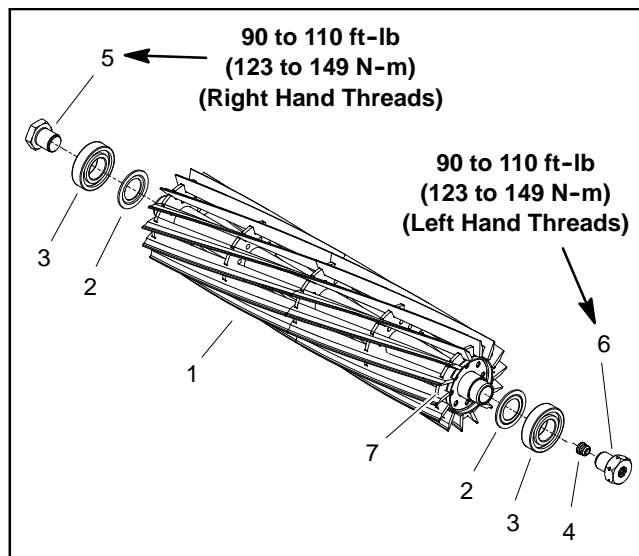

Figure 23
3. Remove two (2) cap screws and nuts that secure weight (item 10) to the RH side plate. Remove weight from the cutting unit. Remove and discard O-ring from weight.
5. If bearings or seals are to be removed from cutting reel, put a block of wood between the cutting reel blades to prevent the reel from rotating. Loosen bearing lock nut (RH threads) and reel nut (LH threads) to allow easier removal after reel assembly is removed from cutting unit (Fig. 23).
8. Remove washer head screws (item 3) that secure crosslink (item 15) to pitch arms. Remove crosslink.
10. Remove shoulder bolts (item 4) and flange nuts (item 5) that secure the LH side plate to the cutting unit crossmember. Remove the LH side plate from the reel shaft, rollers, bedbar and cutting unit crossmember. Locate and remove flat wire spring (item 14). Remove pitch arm (item 7) from side plate.
3. Position the cutting unit on a flat work area. The rollers, bedbar and cutting unit crossmember should be attached to RH side plate. Make sure that pitch arm (item 7) is fitted to RH side plate.
6. Install shoulder bolts (item 4) and flange nuts (item 5) to secure the LH side plates to the crossmember. Torque the shoulder bolts from **210 to 240 in-lb (24 to 27 N-m)**.
7. Position crosslink to pitch arms and secure with washer head screws (item 3).
8. If bearing lock nut (RH threads) and reel nut (LH threads) were loosened during cutting reel service, put a block of wood between the cutting reel blades to prevent the reel from rotating. Torque bearing lock nut (RH threads) and reel nut (LH threads) from **90 to 110 ft-lb (123 to 149 N-m)** (Fig. 23).
13. Install new O-ring (item 12) on weight (item 10). Secure weight to RH side plate with two (2) cap screws and nuts.